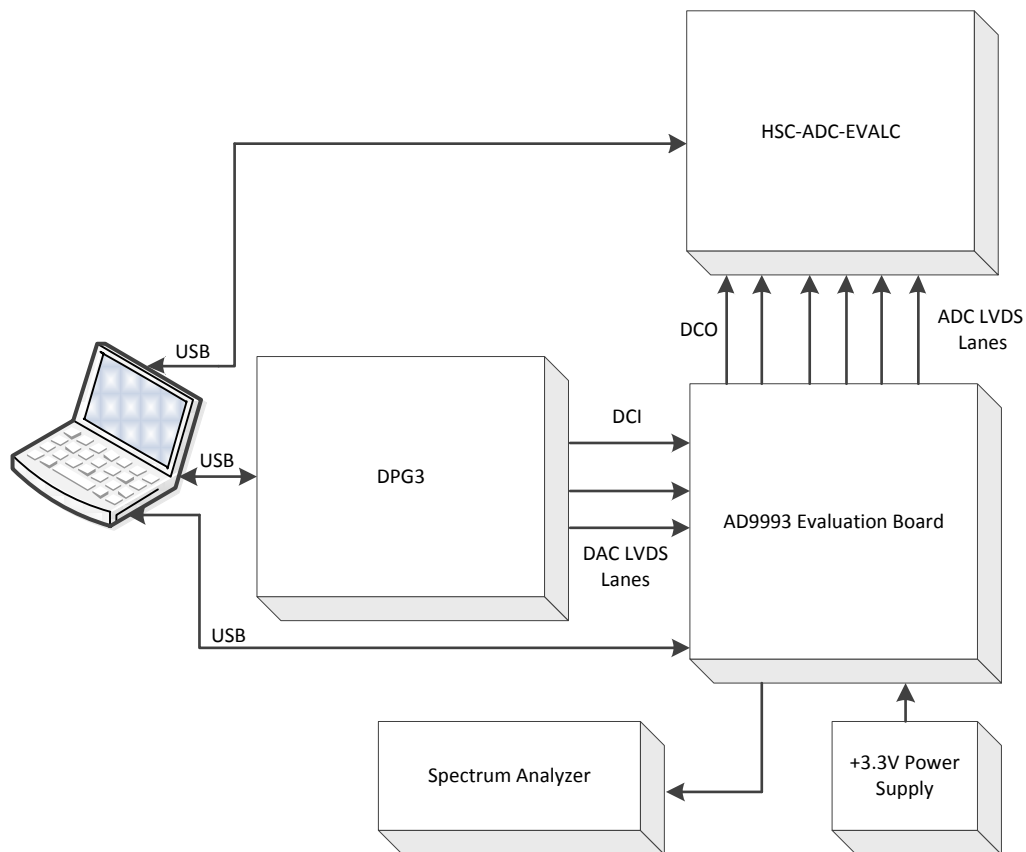
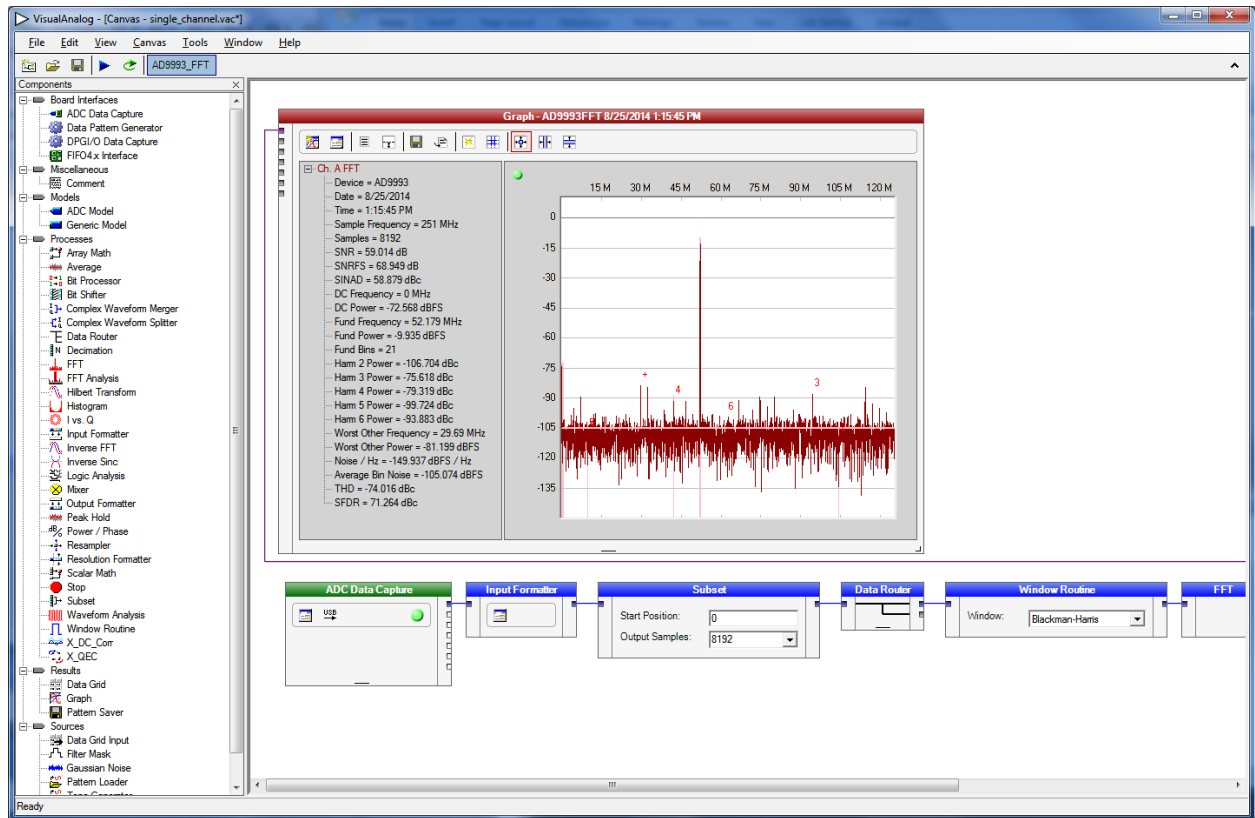

Figure 1. Block diagram of the AD9993-EBZ lab bench set-up
Figure 10. FFT of AD9993 ADC Output. ADC is Driven by a 52Mhz Single Tone Output from AD9993 DAC B
The AD9993 is a mixed signal front end device that integrates four 14 bit high speed ADCs and two 14 bits high speed DACs. The AD9993-EBZ interfaces to the HSC-ADC-EVALCZ and DPG3 platforms as shown in Figure 1. The DPG3 automatically formats the data and sends it to the AD9993-EBZ via its DAC LVDS lanes. The HSC-ADC-EVALCZ takes data from each of the ADCs in real time via the AD9993's ADC LVDS interfaces and passes it to the visual analog software. The visual analog software performs an 8K FFT on ADC outputs and displays the results in a graph (see Figure 10). The SPI registers inside the AD9993 chip are programmed via the HSC-ADC-EVALCZ using the SPI Controller software. AD9993 clock inputs (REFCLK and CLK+/CLK-) are provided by on-board ADF4351 synthesizer ICs. The ADF4351 SPI registers are programmed via the AD9993-EBZ PIC processor (XU2). The AD9993-EBZ is powered by a 3.3V lab supply.
6. Copy “single\_channel.vac” and “fpga\_dig\_top\_PHASE-SHIFT\_n70.bin” from the CD in the box with the AD9993-EBZ to your PC. These files are used by Visual Analog to produce the ADC analyzer display shown in Figure 10.
- b. Open ADC Capture Settings in the ADC Data Capture Box (see Figure 10)
- d. A continuously updated FFT Spectrum shown in Figure 10 will appear on ADC A's digital output.